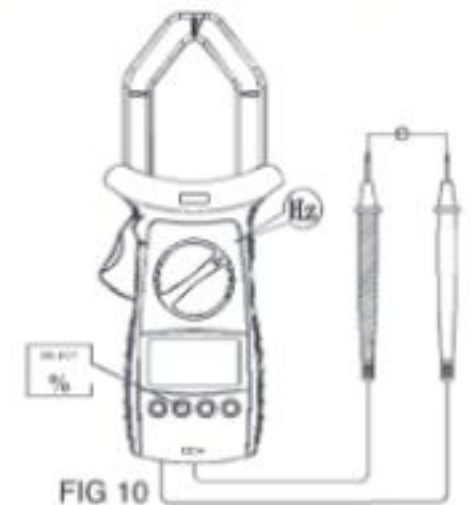

FIG 10
H. Measuring Duty Cycle (See Figure 10)